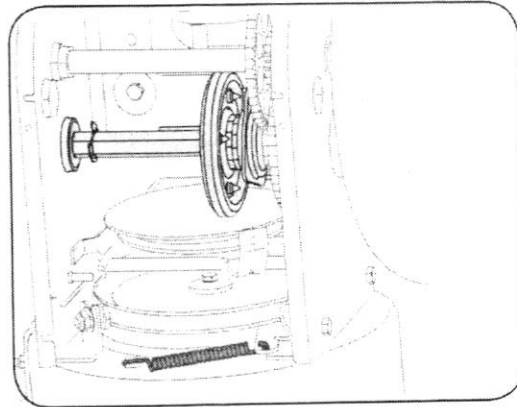

Figure10
2. Apply a light coating of an all-weather multi-purpose grease to the hex shaft. See Figure10